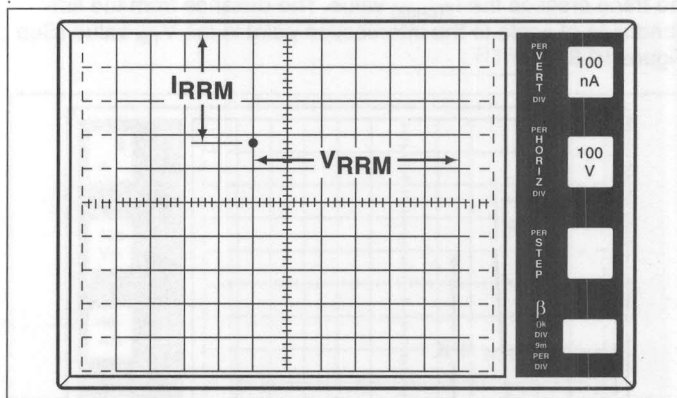

Figure 19.4 I_{RRM} is equal to 340nA at V_{RRM} equal to 600 volts
2. Repeat Steps 1 and 2 (V_{DRM} , I_{DRM}) except substitute V_{RRM} value for V_{DRM} . (See Figure 19.4.)